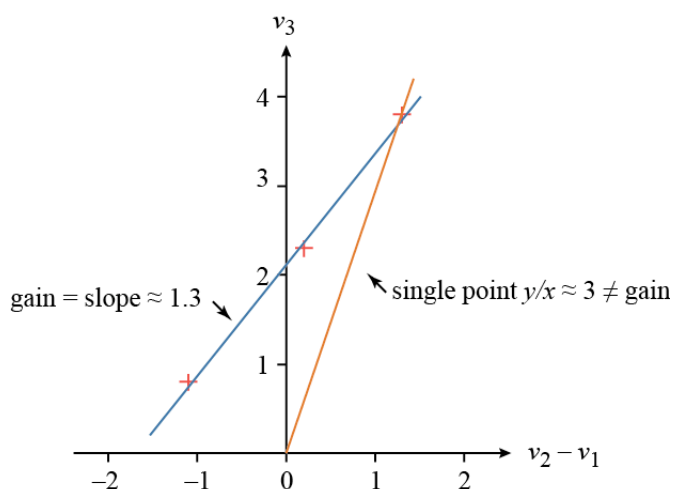

Figure 16. The difference between gain calculated properly as slope and improperly as  $y/x$  for one point.
4) Verify that the gain of the differential amplifier is close to 500. Note that calculation of the gain requires two data points since it is the slope of the line. If only one data point is used, the value of  $y$  divided by  $x$  is unequal to the slope. Fig. 16 illustrates the discrepancy between the true gain and  $y/x$ .